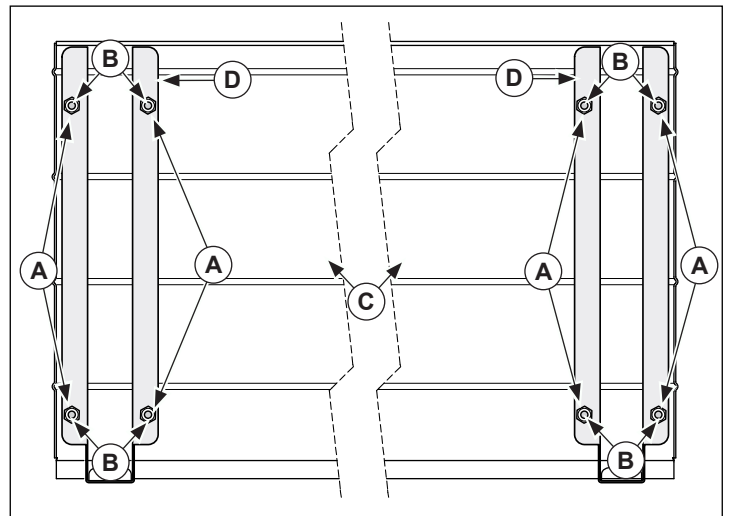

Figure 4. Tray Slide and Bracket Installation
1. Turn the tray slide (C) so the weld nuts (B) are exposed. See Figure 4.